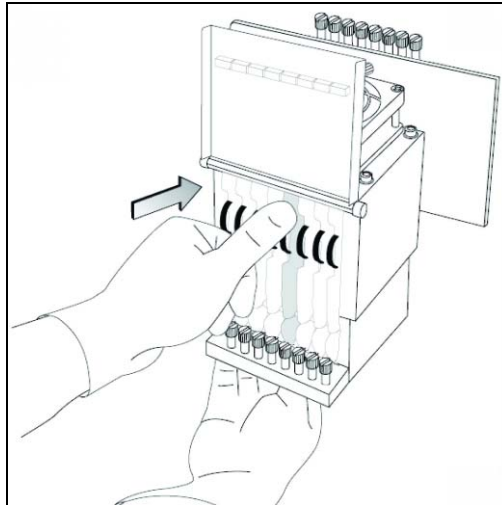

Figure 6-74: Inserting the print-head driver card into its socket
- Re-insert the print-head driver card into its socket (see figure 6-74 on page 50).